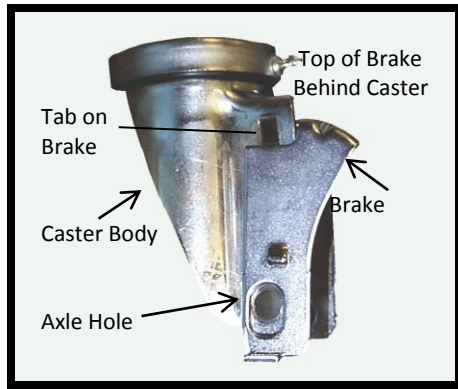

Figure 49: Brake Mounted on Caster
2. **Note:** You must remove the wheel to get the box-end wrench onto the caster nut. With two 9/16 in. wrenches, unscrew the grease fitting and nut that hold the wheel to the caster (Figure 48). Remove the nut, grease fitting, wheel, bushing, brake, and brake lever (Figure 49).
4. Place the brake on the caster (Figure 49). The top portion of the brake should be behind the caster body; the tab on the brake should enter the slot on the caster. The axle holes on the brake and the caster should line up with each other.